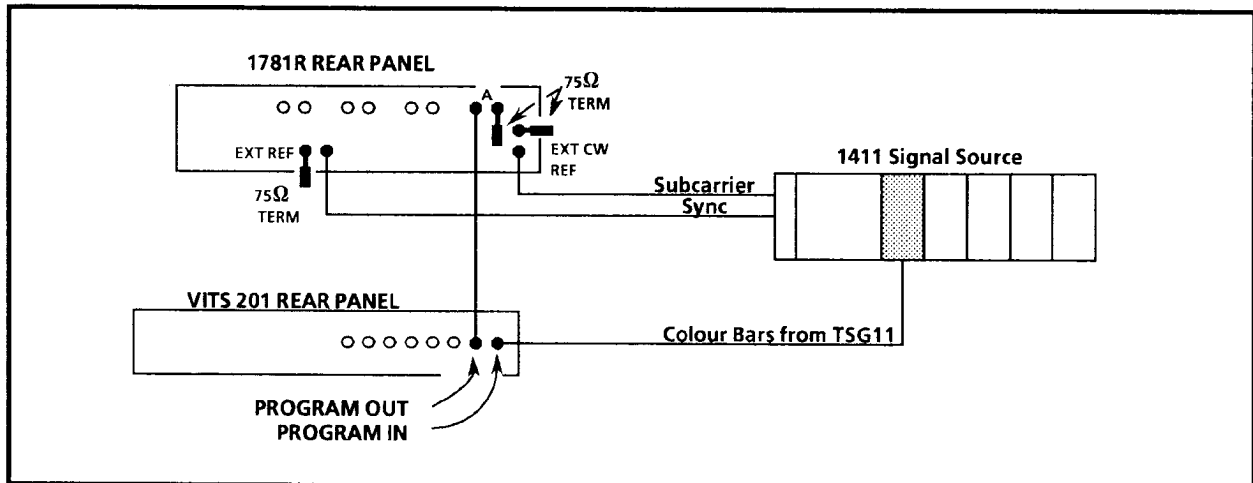

Figure 6-10. Equipment Connections to Check Bypass to Operate Phase Match.
- a. Leave the equipment as shown in Figure 6-10, except replace the colour bar signal from the 1411 with a Field Square Wave. Set the 1781 for one line display.